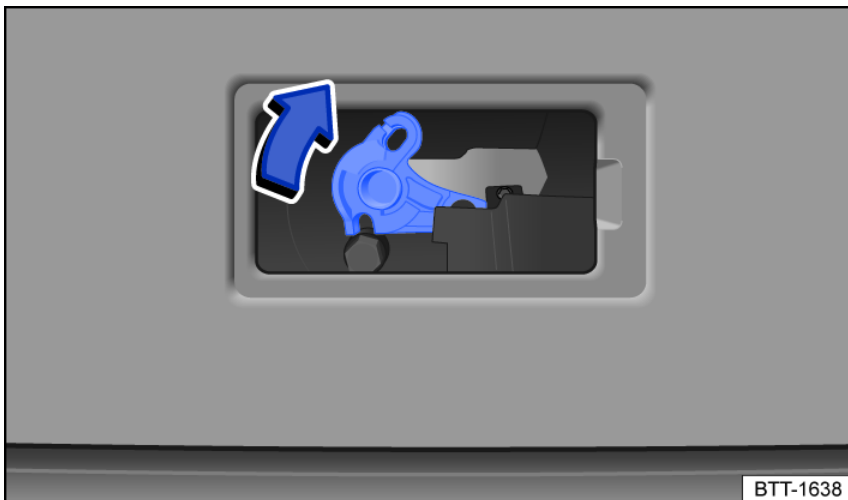

Fig. 56 In the luggage compartment: trunk lid emergency release.
2. Place a suitable object in the opening for the release lever *fig. 56* and press in the direction of the arrow to release the trunk lid.